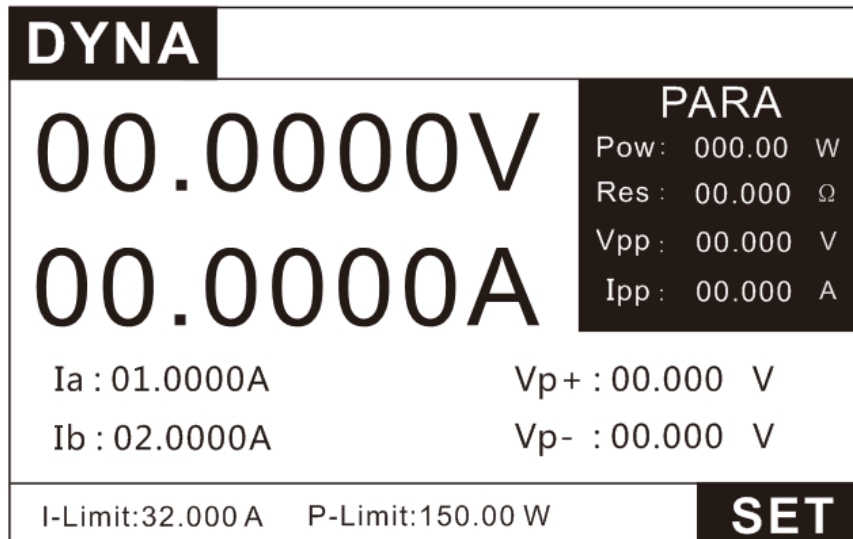
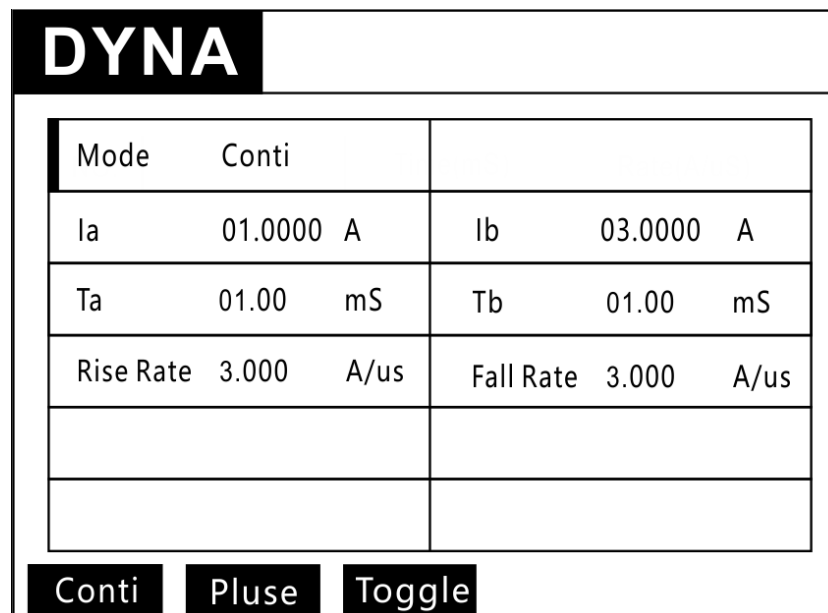

Figure 3.16 DYNA testing page
Figure 3.17 DYNA Setting Page
1. Press the key **MODE** to enter the mode selection page, press the up and down keys to select DYNA, and press the key **ENTER** to enter the DYNA test interface, as shown in Figure 3.16.
2. In Figure 3.16, press the key **SET** to enter the setting interface, as shown in Figure 3.17.
3. As shown in Figure 3.17, set the test mode to continuous test, high current  $I_b=3A$ , high time  $T_b=1mS$ , low current  $I_a=1A$ , low time  $T_a=1mS$ , rise/fall rate= $3A/uS$ .